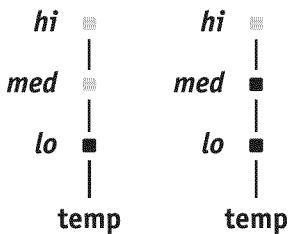

Figure 4
1. Touch the **on•off** pad (Fig. 4) at the keep warm zone control position. The keep warm indicator light will flash.